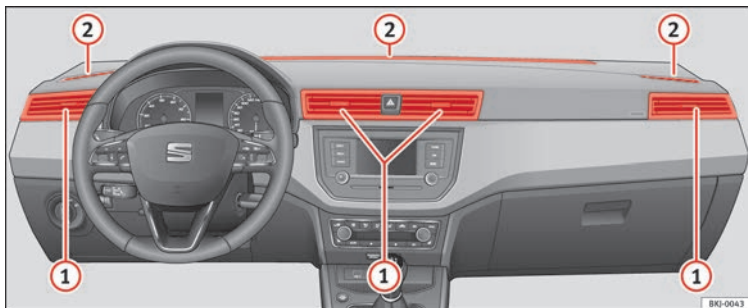

Fig. 173 Air vents.
To ensure proper heating, cooling and ventilation in the vehicle interior, air vents **» Fig. 173 ①** should remain open.